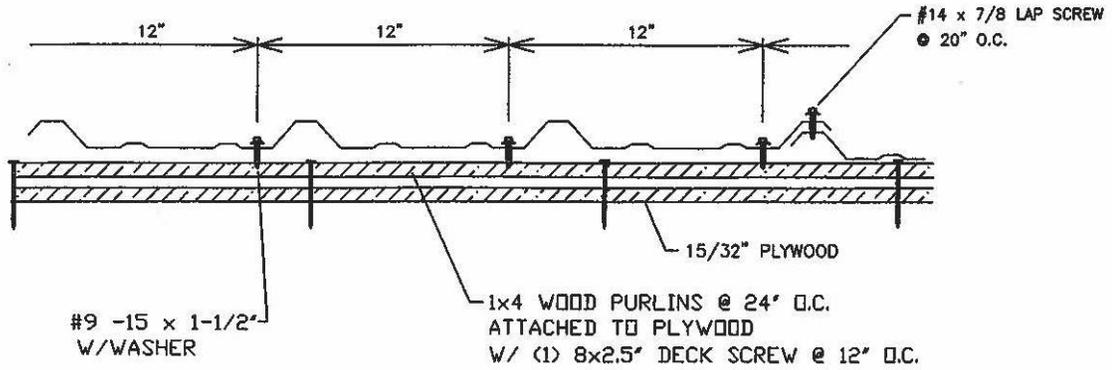
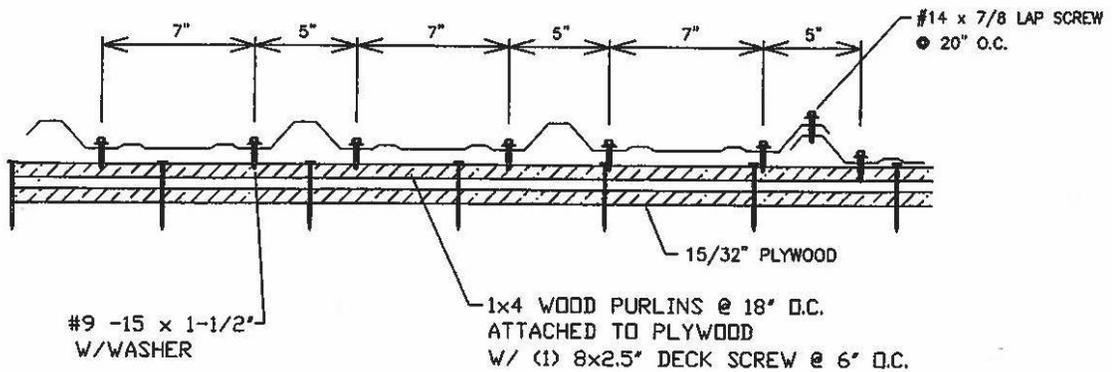

Figure 1. PBR Panel Detail (12-12-12 Fastener Pattern)
Figure 2. PBR Panel Detail (7-5-7-5-7 Fastener Pattern)
**Panels:** The PBR metal roofing panels shall be secured to the wood purlins as specified in Table 1 and in accordance with this section. Refer to Figure 1 and Figure 2 for an illustration of the required fastener patterns.
**Roofing Panels to the Wood Purlins:** Minimum No. 9-15 x 1  $\frac{1}{2}$ " long, HWH Woodgrip screws with a sealing washer. A line of fasteners are to be installed as specified in Table 1. The spacing of the line of fasteners along the length of the panel (wood purlin spacing) shall be as specified in Table 1. Refer to Figure 1 and Figure 2 of this evaluation report for illustrations of the fastener patterns.
**Panel Ends and End Laps to the Wood Purlins:** Minimum No. 9-15 x 1  $\frac{1}{2}$ " long HWH Woodgrip screws with a sealing washer. A line of fasteners in a 7"-5"-7"-5"-7" pattern are to be installed. Refer to Figure 1 of this evaluation report for an illustration of the fastener pattern.